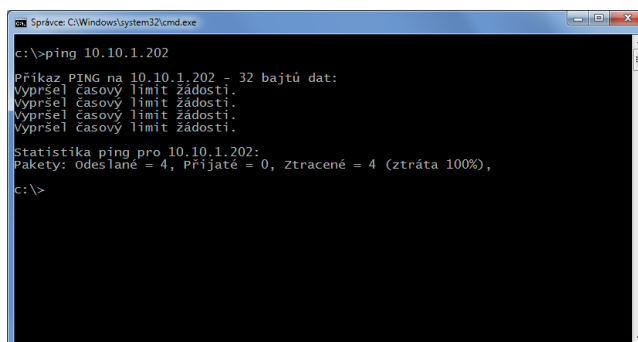

Fig. 79: The device is not available.
6. If the device is not available, then the result looks similar to Fig. 79. This is an undesirable condition. Common causes of this condition are: